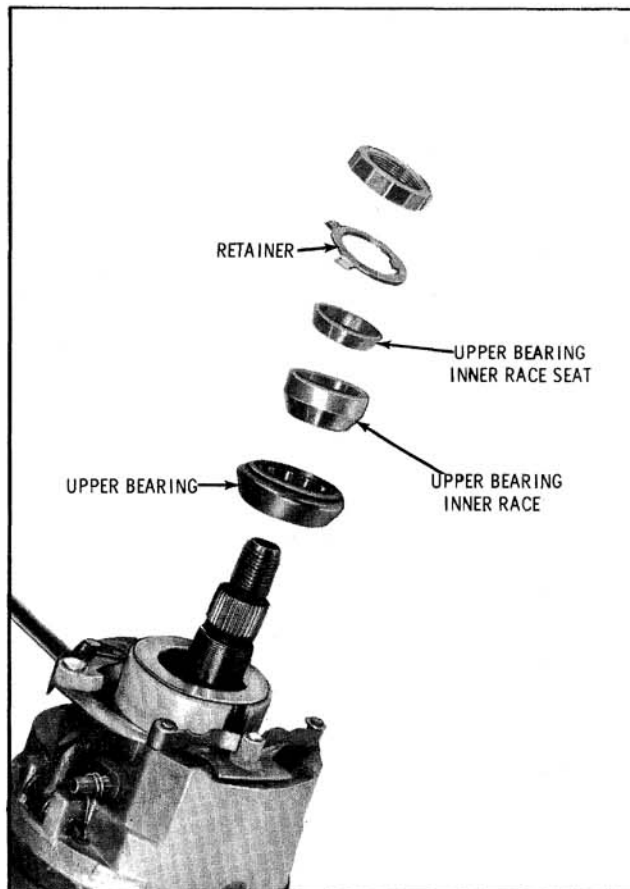

Fig. 8-97 Removing Upper Shaft Parts
6. Remove upper bearing inner race seat, upper bearing inner race and upper bearing. (Fig. 8-97)